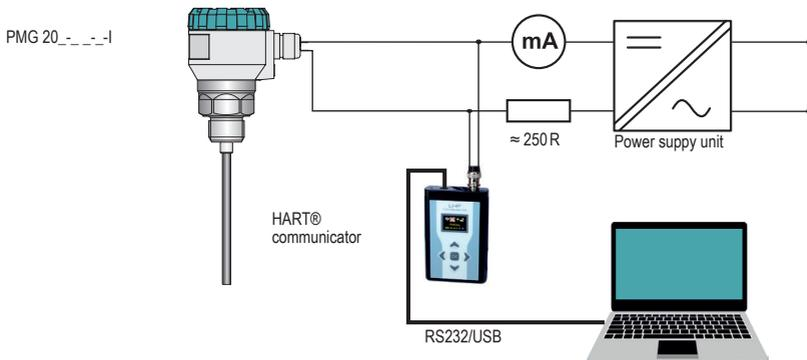
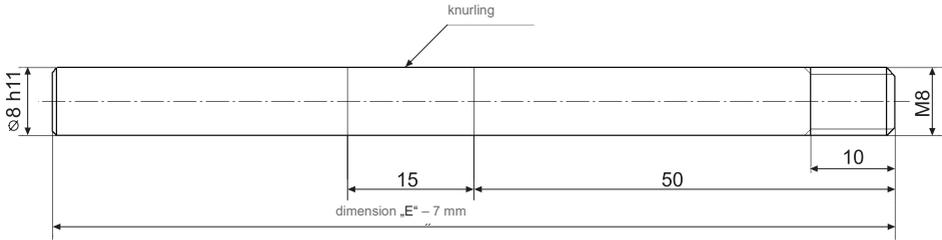

Fig. 28: Connection of peripheral devices with HART protocol
Fig. 31: The drawing of the measuring electrode marked with connection thread and knurling
A HART communicator is required to set the level meter and record the measurement data, via which direct communication with the level meter can take place or which can be used to convey communication with a peripheral device, see fig. 28.
2. Shorten the rod electrode by means of a suitable metal saw and file the end of the electrode. The length of this electrode must be 7 mm shorter than dimension "E" in fig. 28. At the rope electrode, it is necessary to loosen three fastening screws on the ballast and to pull out the end of the cable, see fig. 31. Check the length of the rope after shortening it – the cable is suspended in the ballast up to a distance of approximately 60 mm. Shorten the rope with a wire cutter. Make sure that the end of the rope does not fray.